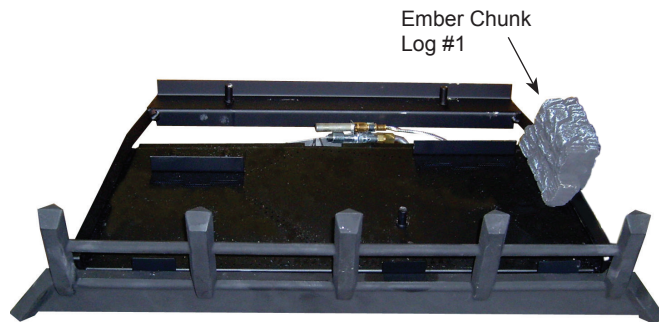

Figure 24. Place Ember Chunk Log #1
1. Place the #1 log (the "chunk") on the grate bar right side of the burner adjacent to the controls. Figure 24